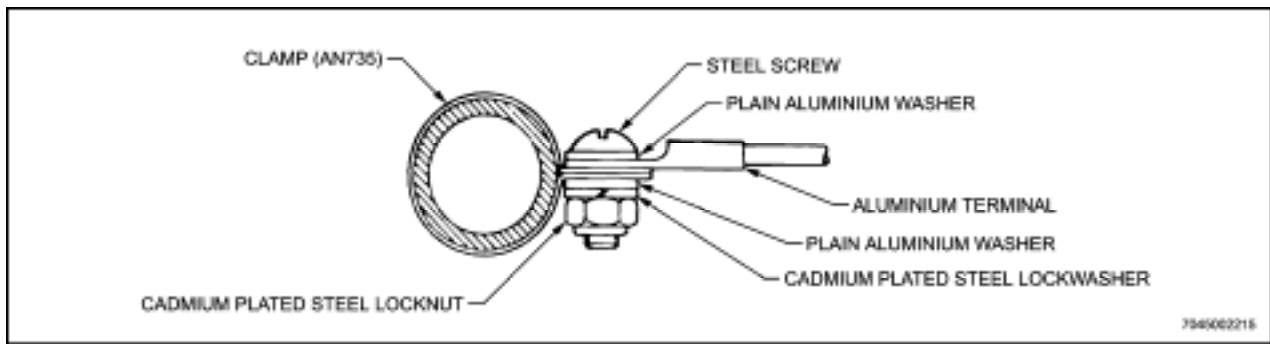
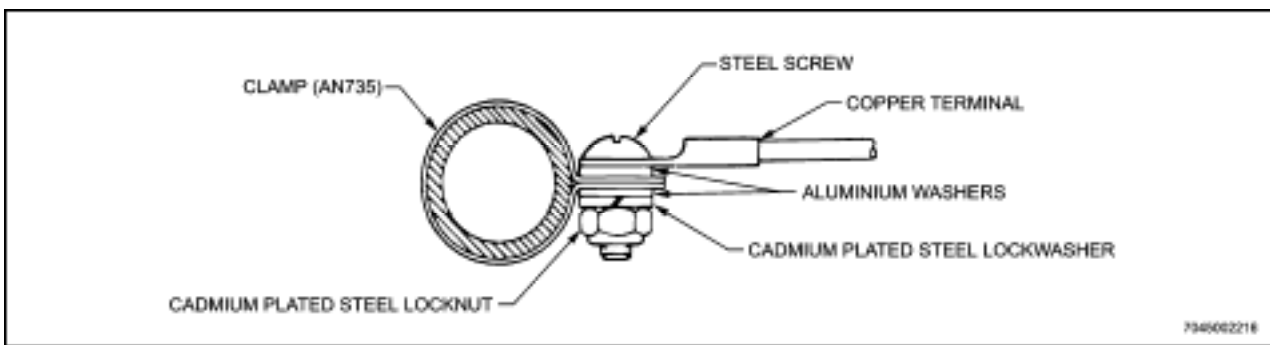

Figure 13-6 Aluminium Jumper Connection to Tubular Structure
Figure 13-7 Copper Jumper Connection to Tubular Structure
21. Make bonding or grounding connections to aluminium alloy, magnesium alloy, or corrosion resisting steel tubular structure as shown in Figure 13-6 and Figure 13-7. Figure 13-6 shows the arrangement of hardware for bonding with an aluminium jumper. Because of the ease with which aluminium is deformed, it is necessary to distribute screw and nut pressure by
means of plain washers as shown. Figure 13-7 shows the arrangement of hardware for bonding with a copper jumper. No extra washers are used. If installation conditions require, use an AN742 clamp (non-cushioned) instead of an AN735 clamp. Do not change any other hardware if this substitution is made.